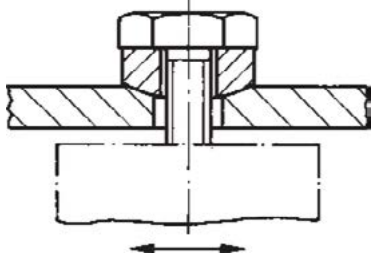

Fig. 1: Individual fixing
a) A non-rigid fixing is required for every holding solenoid so that each one can adapt to uneven surfaces (Fig. 1).